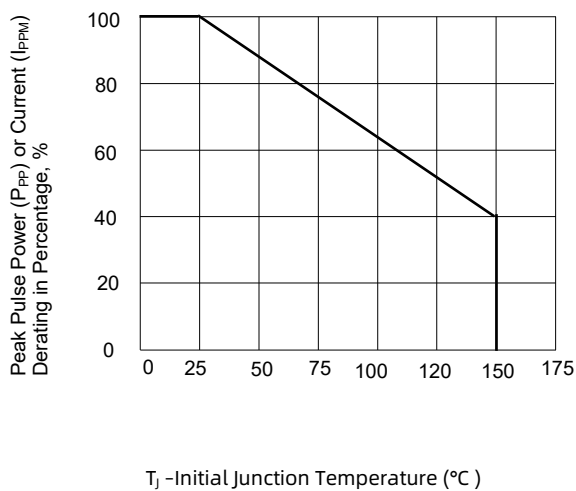
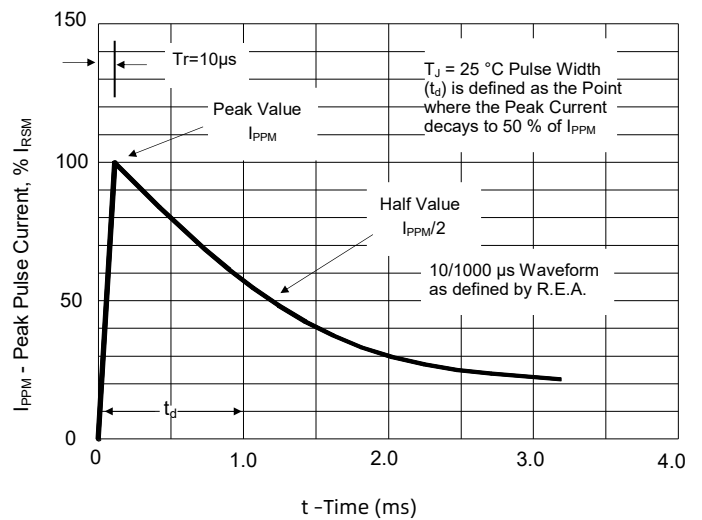

FIGURE 3 Peak Pulse Power Derating Curve
FIGURE 4 Pulse Waveform
1. Non-repetitive current pulse, per Fig. 4 and derated above T_J (initial)=25°C per Fig. 3